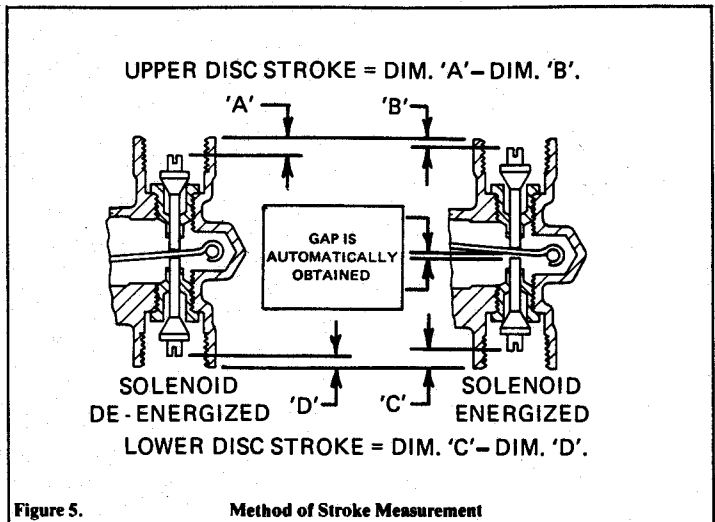

Figure 5. Method of Stroke Measurement
17. New upper and lower seats and discs cannot be installed without making some minor adjustments. It is important that the stroke of the valve discs be set carefully in order to obtain the proper orifice opening and reliable operation of the valve. Check valve nameplate for the catalog number and refer to "Stroke Chart," Form No. V-5940 for stroke setting requirements. Refer to Figure 5 for the method of measuring the stroke. Spaces are provided on this sheet for your calculations.
19. With valve de-energized, measure Dimension "A." Dimension "A" is from the top of the valve body to the top of the upper disc as illustrated in Figure 5.
20. With valve energized, measure Dimension "B." Dimension "B" is from the top of the valve body to the top of the upper disc as illustrated in Figure 5.
27. When the strokes have been set in accordance with Figure 5 and the "Stroke Chart," Form No. V-5940, a gap will automatically be obtained between the lower disc stem and the lever when the solenoid is energized. This gap will assure proper operation of the valve.